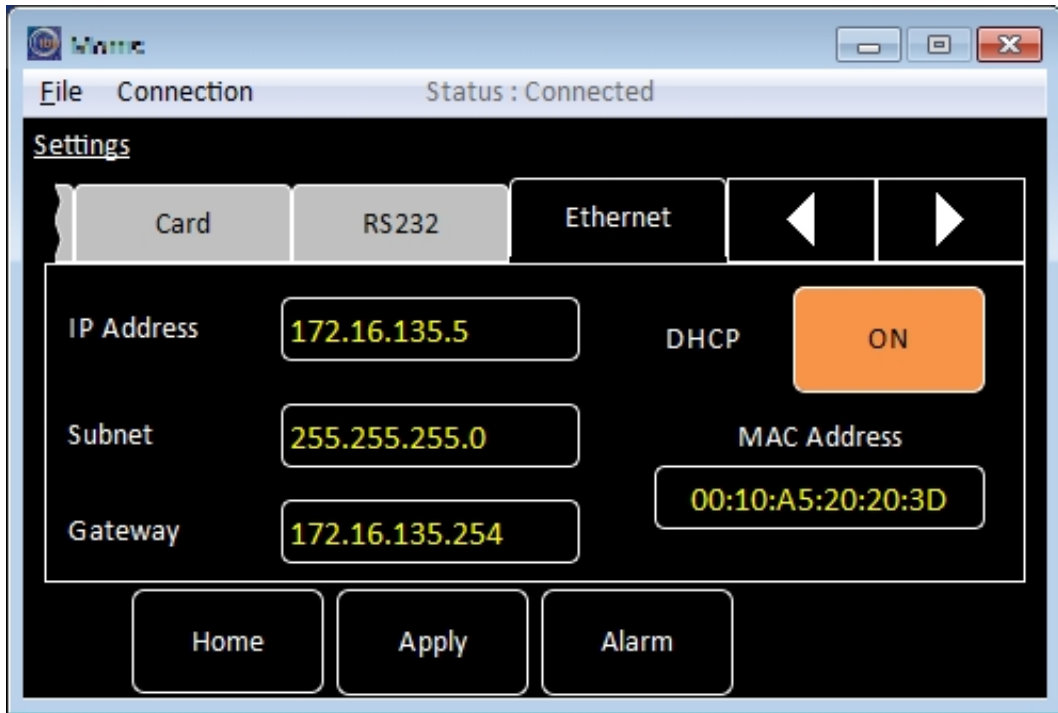

Figure 12: Determining the IP address of the Mercury iTC Heliox controller.
In order to open a connection to the RI you must also know the Internet Protocol (IP) address of the Mercury iTC Heliox controller. These details can be obtained from the **Settings>>Ethernet** menu on the controller, figure 12.